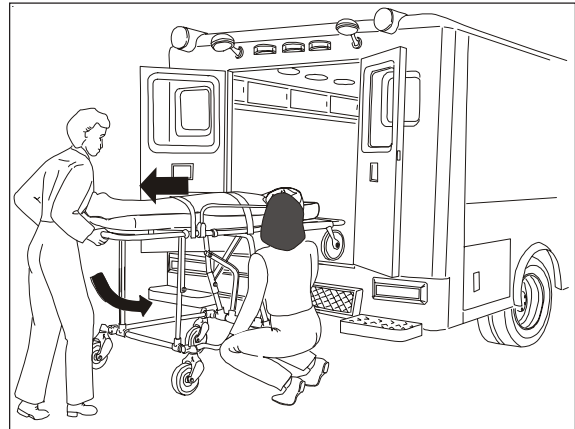

Figure 22 - Unloading the Cot
4. *Head-End Operator*: As cot is being pulled from patient compartment, grasp undercarriage lifting grip and lower undercarriage (Figure 22).